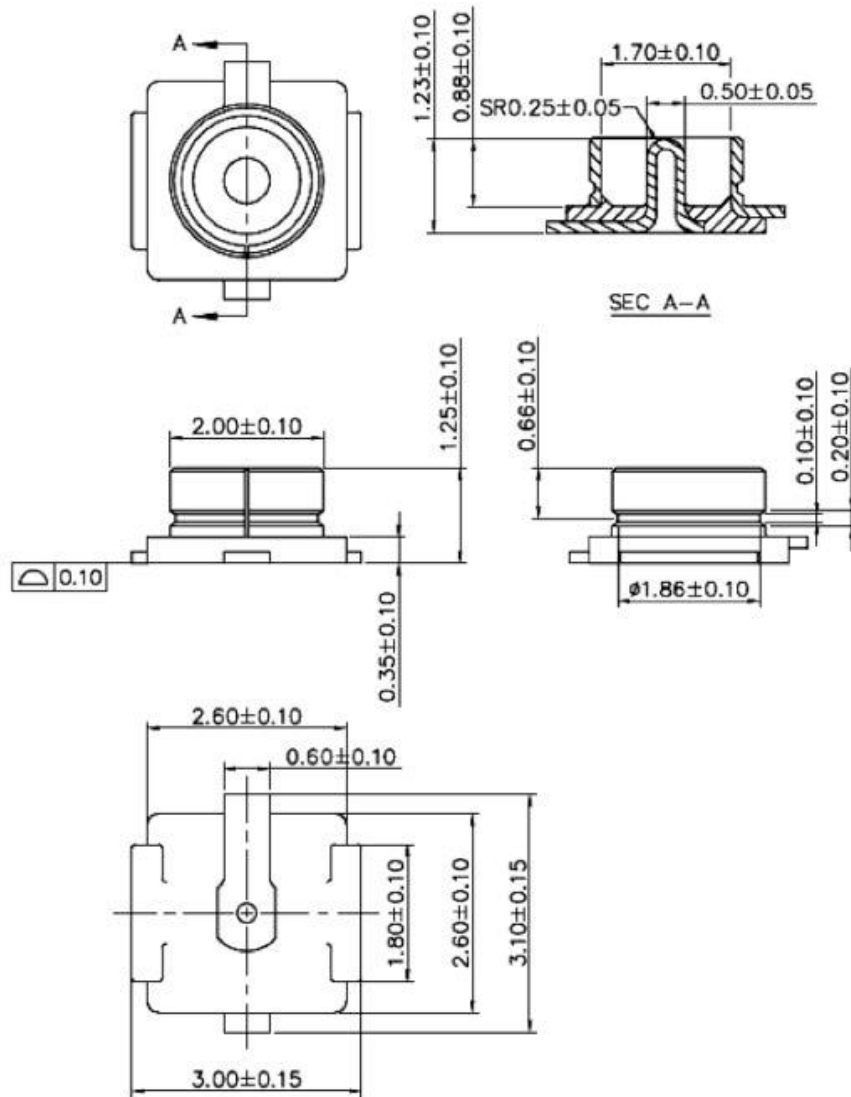

Figure 10 Size of External Antenna Connector
- SMT patch should on the basis of reflow profile diagram, maximum temperature 245°C , reflow profile diagram is shown in figure 10;